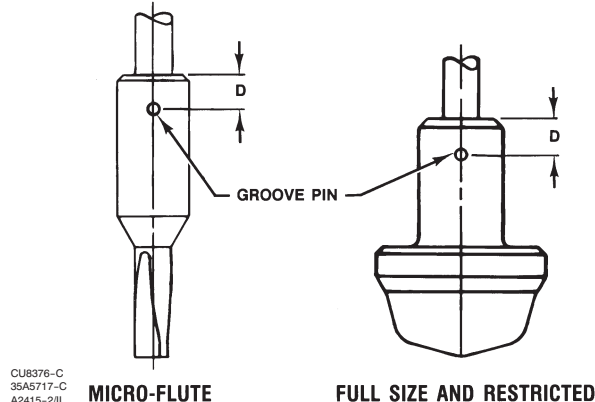

Figure 10. Bolt Torque for Plug/Stem Connection and Plug/Adaptor Connection and Pin Replacement
1. **For valves with metal seats,** screw the valve stem (key 7) into the valve plug (key 2). Tighten to the torque value given in figure 10. Refer to figure 10 to select the proper drill size. Drill through the stem using the hole in the valve plug as a guide. Remove any chips or burrs and drive in a new pin (key 8) to lock the assembly.
3. **For all valves with composition seats**, screw the valve stem (key 7) into the valve plug guide (key 27, figure 13). Tighten to the torque value given in figure 10. Refer to figure 10 to select the proper
2. Thread the valve plug (key 2) or, the valve plug guide (key 27, figure 13) if the valve has composition seats, onto the adaptor (key 24, figure 11). Tighten to the torque value given in figure 10.
3. If the valve plug is not pre-drilled, drill a hole according to figure 10. Otherwise, select the proper drill size (figure 10) and drill through the adaptor using the hole in the valve plug as a guide. Remove any chips or burrs and drive in a new pin (key 8) to lock the assembly.